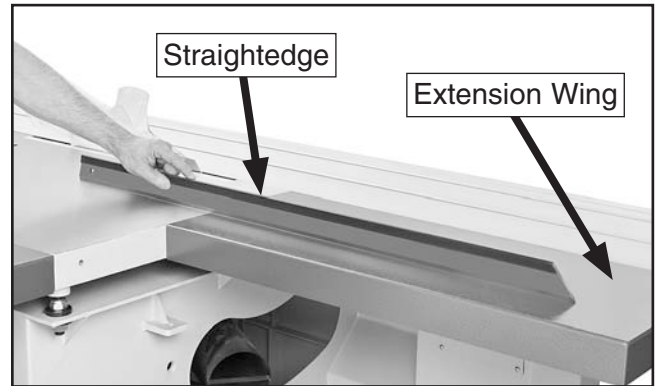

Figure 30. Using a straightedge to make sure the table/wing top surfaces are even.
29. Place the straightedge across the cast iron table and an extension wing, then adjust the set screws in or out to make the top surface of the wings even with that of the cast iron table (see **Figure 30**).